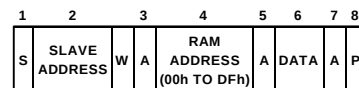

Figure 16c. Single Byte Write To RAM
1. Write a single byte of data to RAM. In this case the command byte is the RAM address from 00h to DFh and the (only) data byte is the actual data. This is illustrated in Figure 16c.